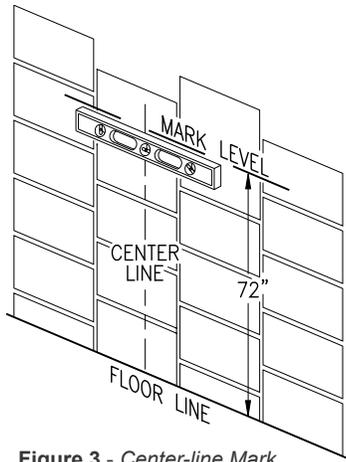

Figure 3 - Center-line Mark
1. Determine and mark the vertical center line for installation of the AutoSwitch Console. (Figure 3).
3. Remove the mounting bracket from the rear of the AutoSwitch Console by removing the nuts at the bottom of the bracket. Place the upper edge of the bracket cross-member on the horizontal line so that it is centered with the vertical line. Holding the bracket with the slotted extensions away from the wall, mark the location of the two mounting bolts (Figure 3)